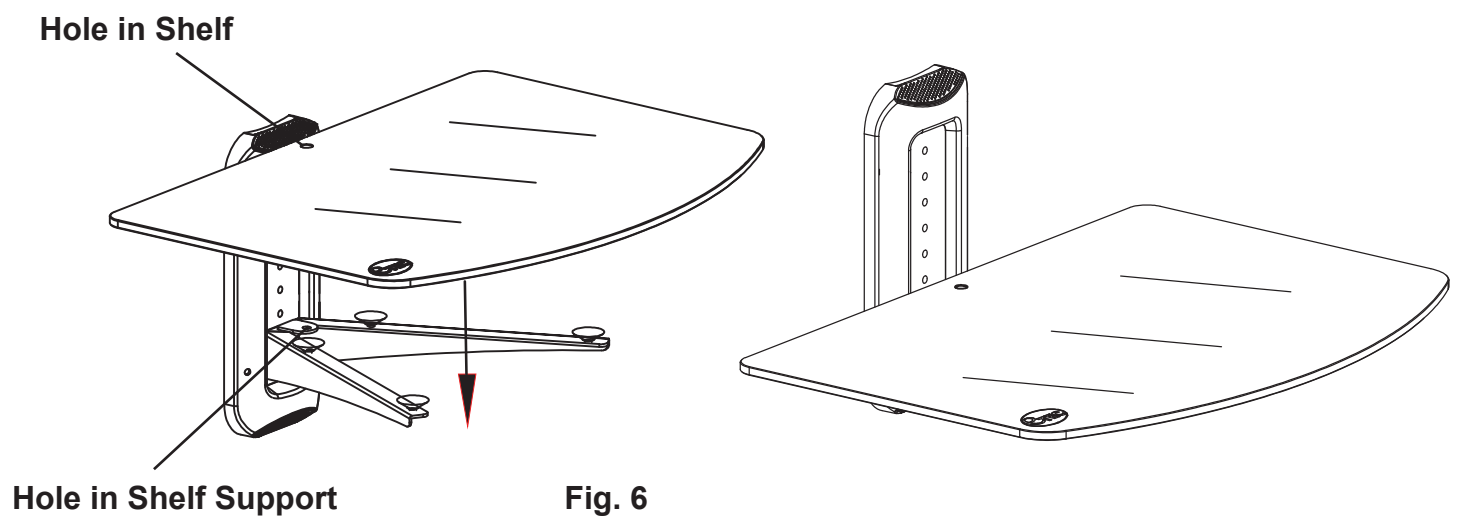

Fig. 6
Carefully place the **Glass Shelves (4)** on the **Shelf Supports (3)** as shown in Fig. 6.